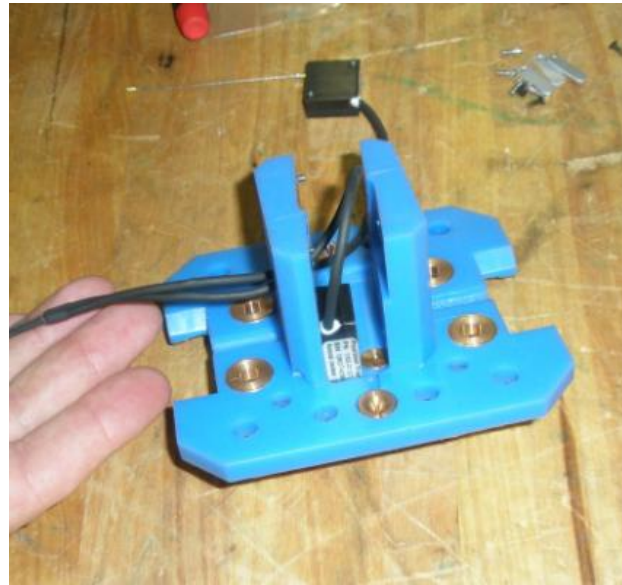
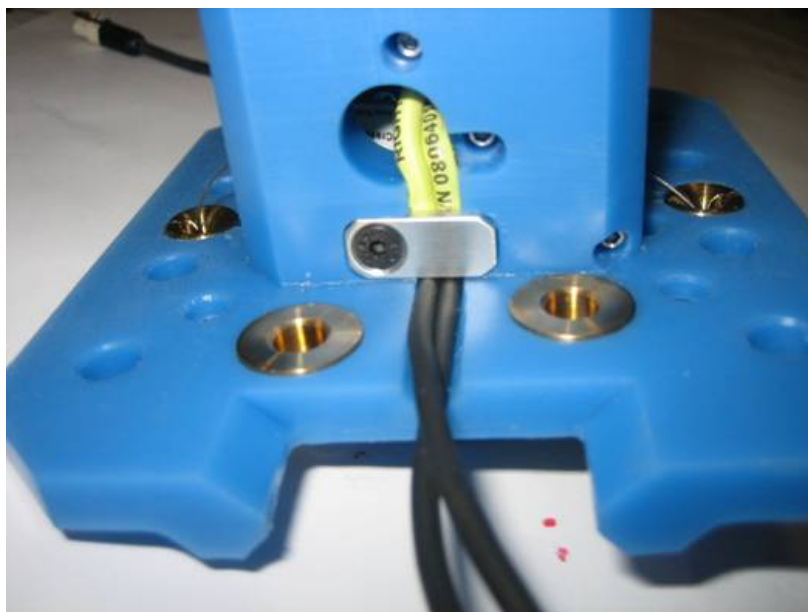

Figure 61 . Meniscus string pot assembly wire feed
Figure 63 . Meniscus wire clamp
Referring to Meniscus assembly (133-5313) feed the connector of one of the right hand (RH) pull string pots through the inner side of one of the central holes, see Figure 61. The RH and the LH string pots can be identified from the serial number; the RH has an R at the end of the number and the LH an L. The two RH pull string pots are positioned closest to the main flange of the meniscus, one is shown fitted in Figure 61. Attach the string pot with the #2-56 x ¼ long cap head screws making sure the pull wire is directed towards the furthest away outer bronze bush. Fit the other RH pull string pot in the same way on the opposite side. Pass the pull wires through their designated bushes. Carry out the same procedure with the Left hand pull string pots, the pull wires are directly in line with the two inner bushes. Feed the pull wires through the bushes. Make sure electrical wires are inside the cavity as much as possible then run cables through channels both sides and clamp with retaining plate see Figure 63. Fit assembly to knee block bottom ensuring pot wires are in their grooves. The threads of the four M5x10 low head cap screws used to retain the meniscus will need to have low strength thread lock applied (e.g. loctite 222). This will prevent the screws coming lose when in service.